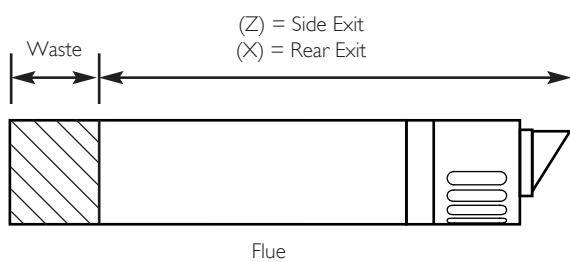

Fig. 27
i.e. (X) = wall thickness + 270
3. Take the flue and mark off (X) from the terminal end as indicated in the diagram (Fig. 27).
i.e. (Z) = case to wall + wall thickness + 280
5. Take the flue and mark off (Z) from the terminal end as indicated (Fig. 27).